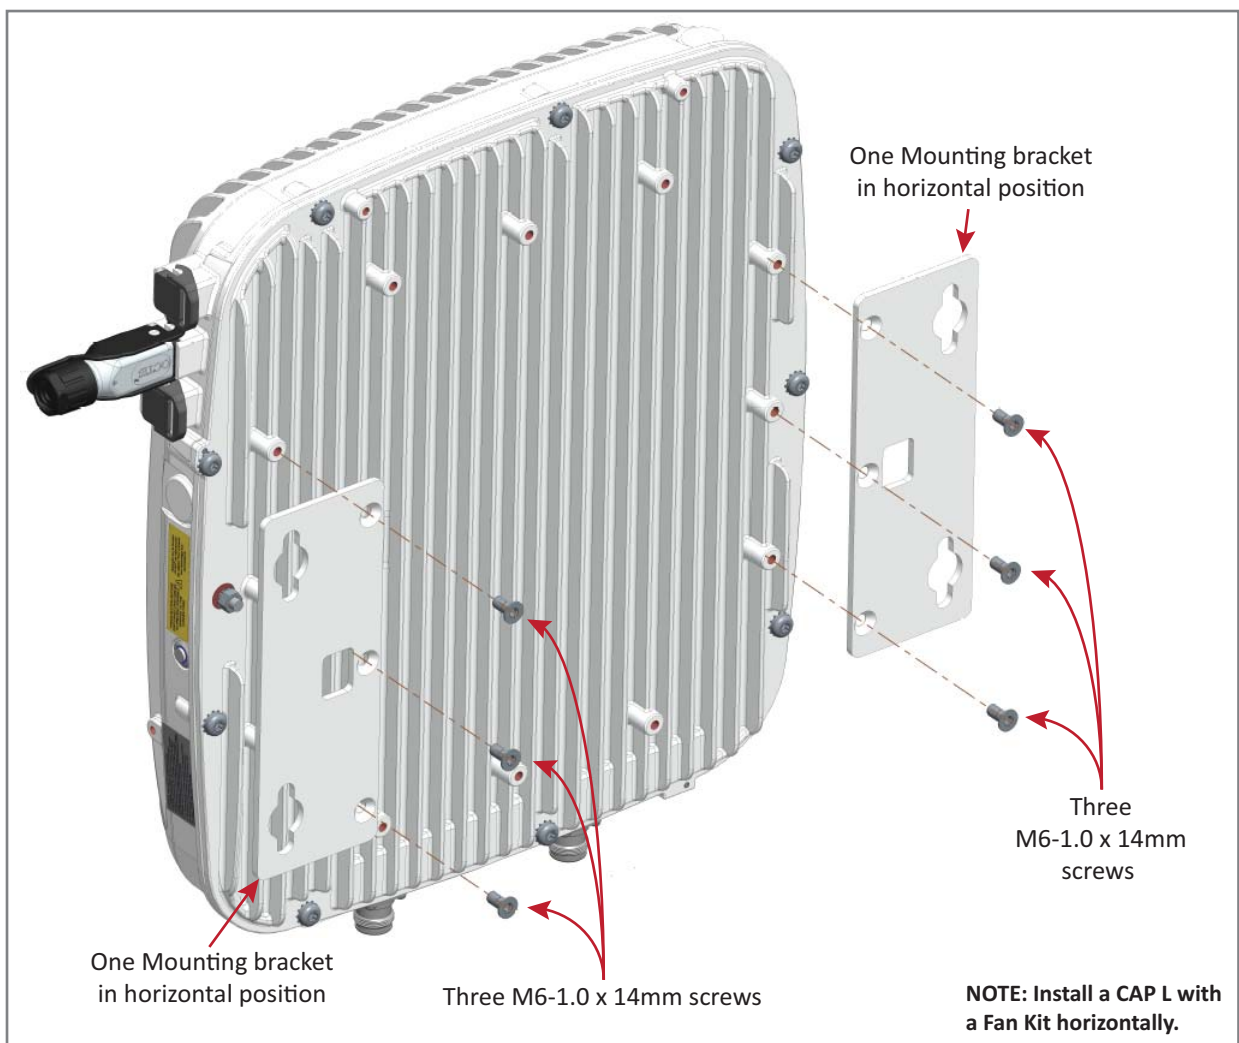
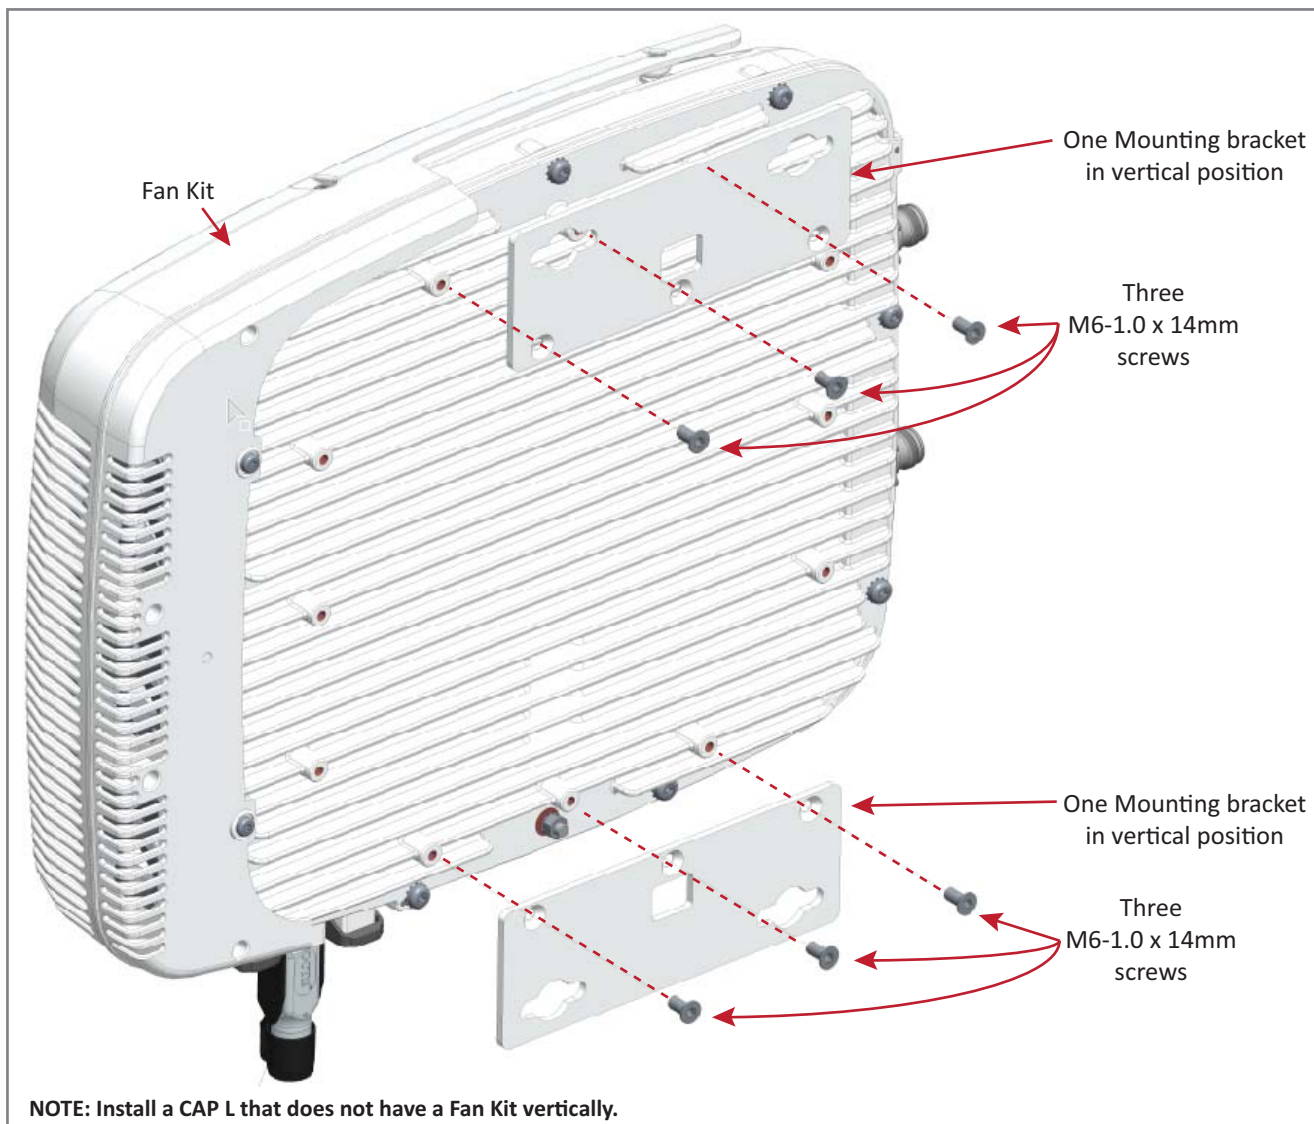

Figure 9. CAP L (No Fan Kit) with Flat Mounting Bracket Kit (PN 7774353-xx)
Figure 10. CAP L with a Fan Kit and Flat Mounting Bracket Kit (PN 7774353-xx)
- 5 Attach the two mounting brackets to the back of the CAP L enclosure as described below and as shown in Figure 9 (CAP L with a Fan Kit) and Figure 10 on page 27 (CAP L without Fan Kit).